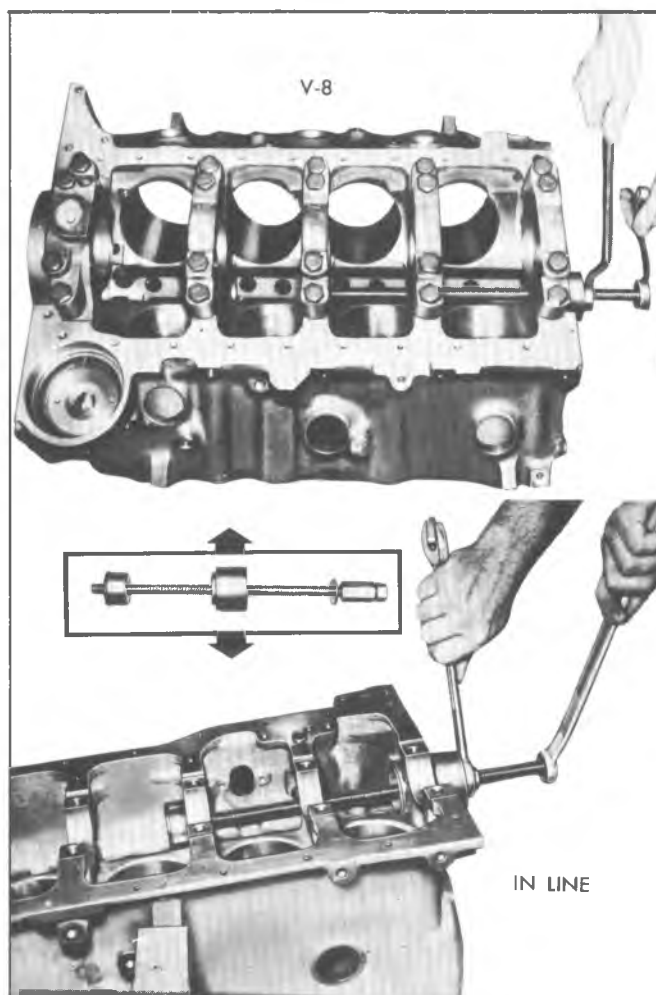

Fig. 67—Replacing Camshaft Center Bearing
nut. When bearing has been pulled from bore, remove remover and installer tool and bearing from puller screw (fig. 67).
4. Using two wrenches, hold puller screw while turning nut. After bearing has been pulled into bore, remove the remover and installer tool from puller screw and check alignment of oil hole in camshaft bearing (fig. 67).